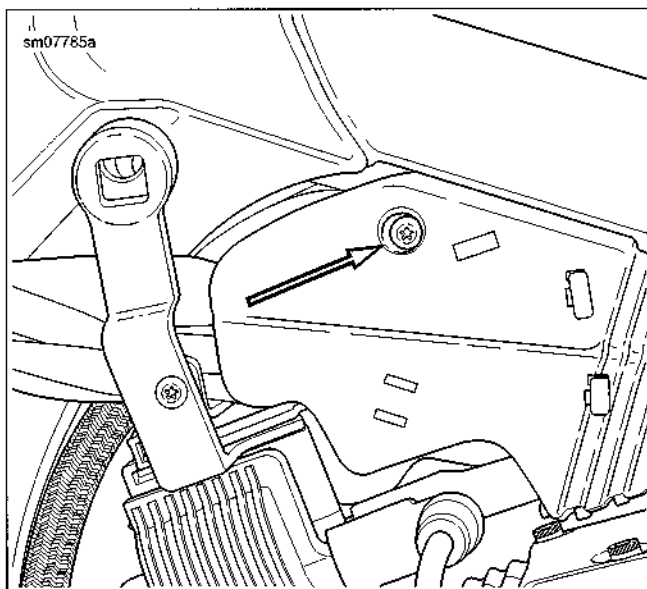

Figure 6-112. Caddy Fastener
3. See Figure 6-112. Remove LH harness caddy fastener.